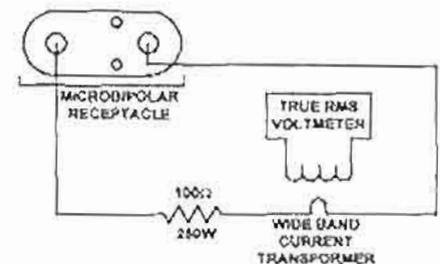

Figure 3-6. Microbipolar output test circuit.
- Set up a test circuit as depicted in figure 3-6.